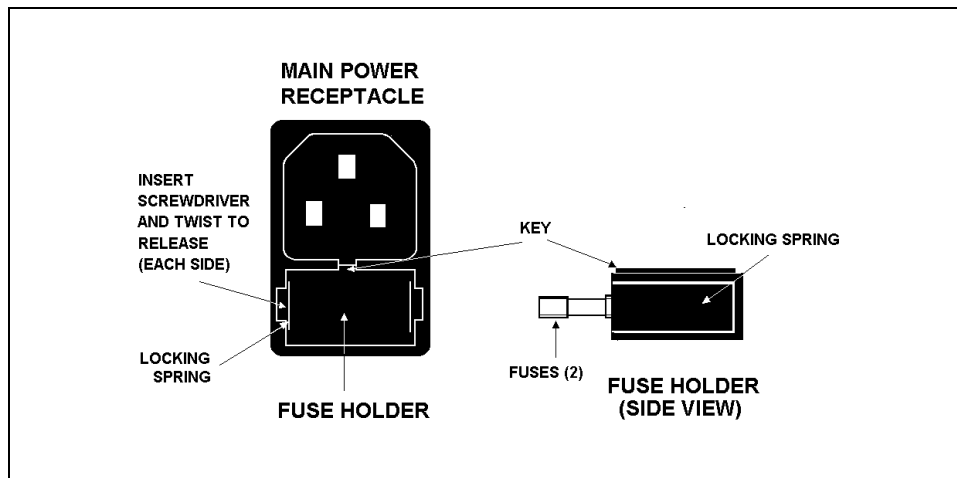

Figure 5-1. Main Power Fuse Holder
2. The fuse holder is part of the main power receptacle on the rear panel (see Figure 5-1). A recessed lock is located on each side of the fuse holder. Using a small screwdriver or your fingernails, push each lock toward the center to release it. The fuse holder pops out approximately $\frac{1}{16}$ -in when the locks release. When both locks are released, pull the fuse holder straight out of its compartment.